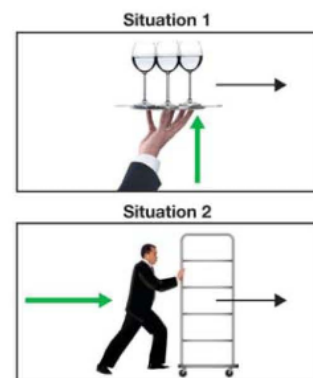

Figure 7.10: Question 9.
- In which of these cases (Figure 7.10) is a waiter doing work on the object? Explain your answer.